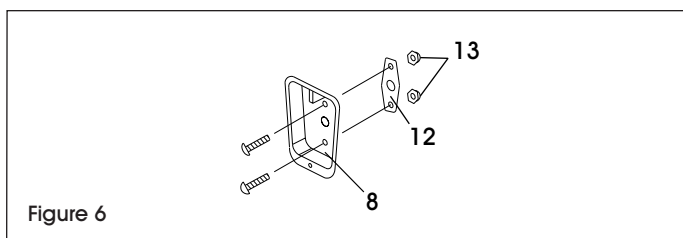

Figure 6
8. Attach cover plate (12) to recessed handle (8) using 2 bolts and high-dome cap nuts (13). (See Figure 6)